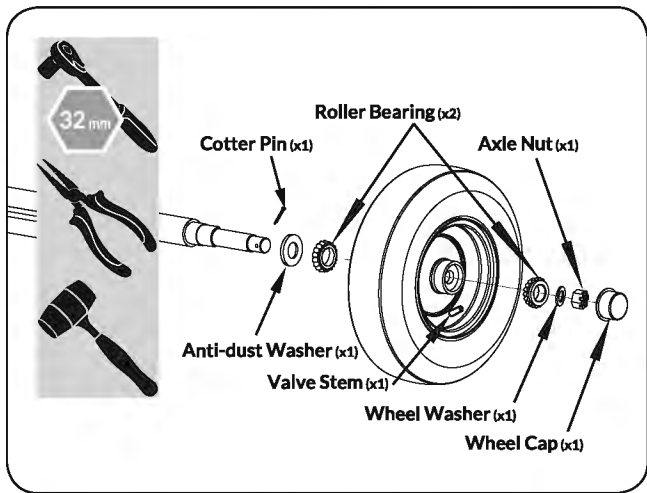

Figure 7c
4. Slide the wheel with the valve stem facing out to the wheel axle and the other roller bearing, then put the wheel washer against the bearing. Use a 32mm socket to tighten the axle nut completely. (See Figure 7c)